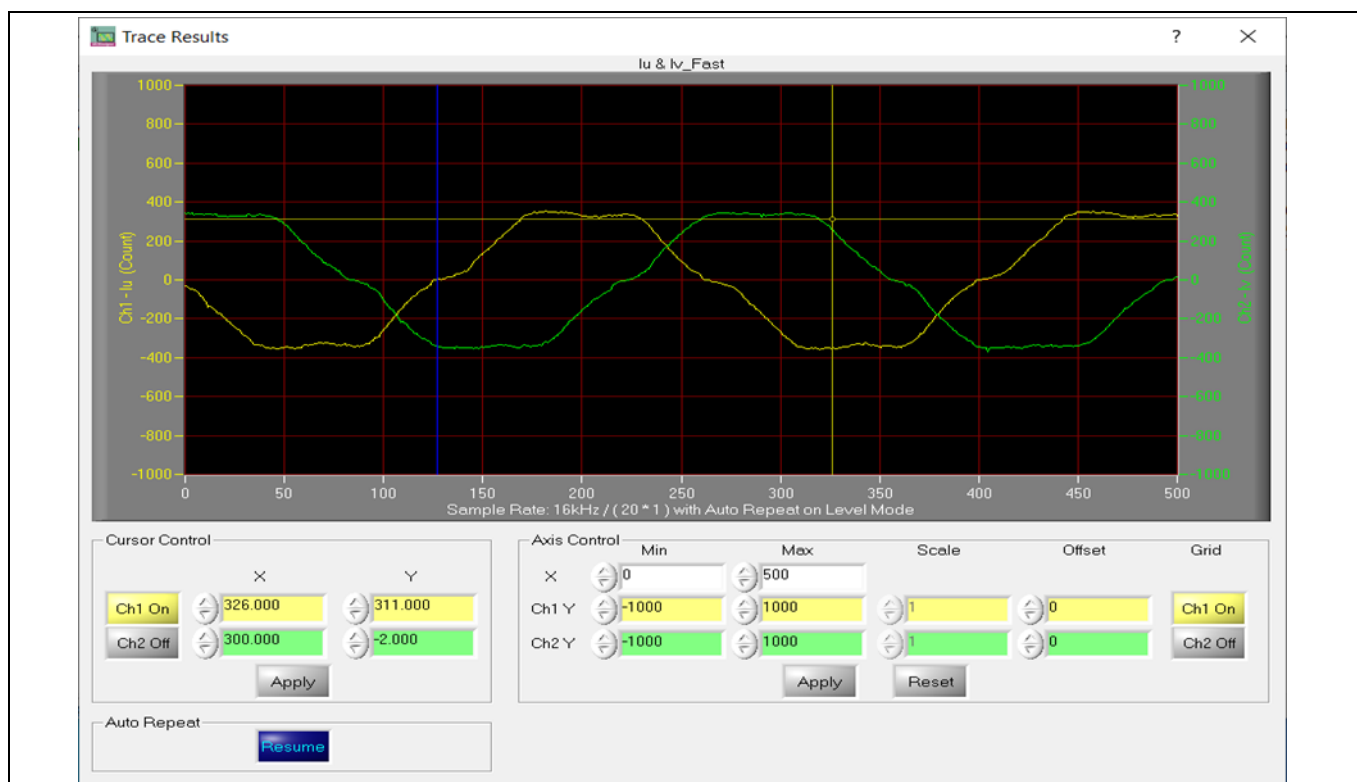

Figure 9 Trace waveform for I_u & I_v open loop diagnostic
11. Open System Page > Monitor Definitions and double-click **I_a & I_v Slow**. The motor current feedback should be clean and sinusoidal, as shown in Figure 9. If not, please tune the Gating Propagation Delay & Phase Shift Window Size in the MCEWizard. The sampled motor-current noise amplitude should be less than 50–100 counts (below 5% of the motor current or below 5% of the maximum AD (analog to digital converter) range, which is 2048 counts.) If not, the motor current sample-related hardware and the setup need tuning.